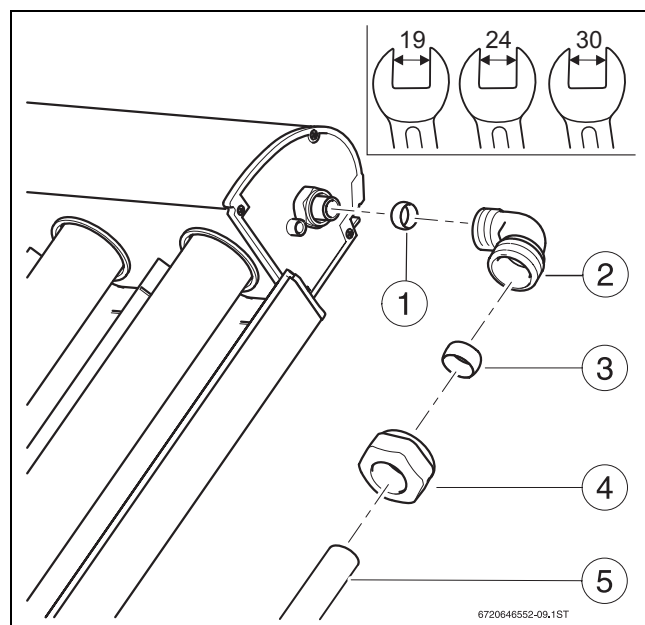

Fig. 34 Connection pipe and collector fittings
- ▶ Connect the pipe [5] to the angled fitting (use SW30 spanner, → Fig. 34). Counterhold with SW19 spanner at the angled fittings.